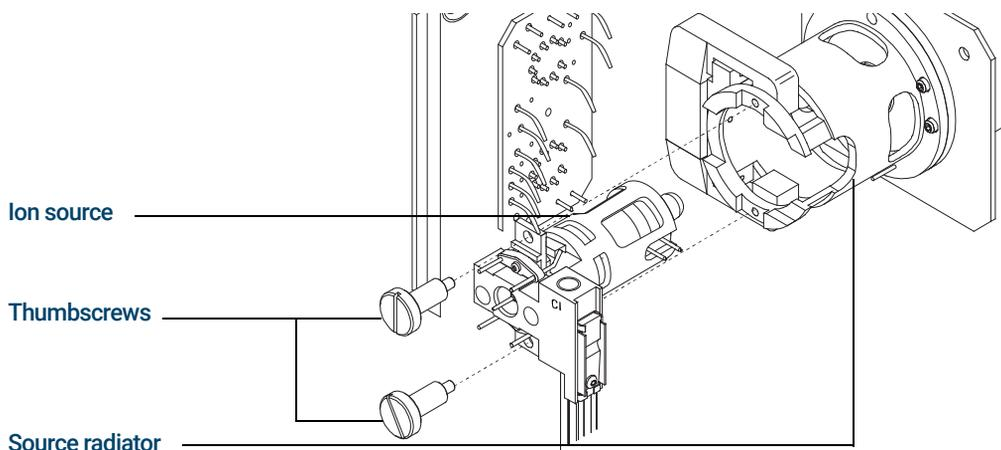

Figure 79. Installing the CI source
- 4 Install the thumbscrews. (See **Figure 79.**)